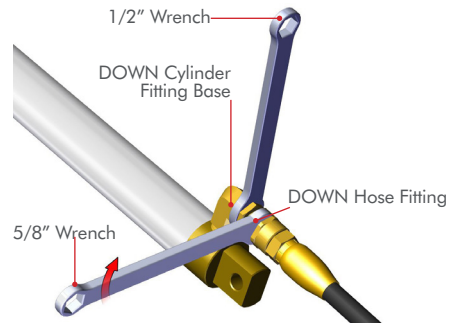

Figure 2
STEP 3: Repeat **STEPS 1-2** for **DOWN Cylinder Fitting** (Black Dust Cap) and **Down Hose** (labeled). **FIG. 2**